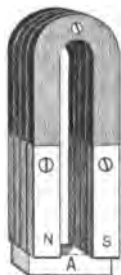

FIG. 191
**296. Magnetic Effect.** — This is the most peculiar and perhaps the most important of the electrical effects. In a general way, most of us are familiar with it. We have seen and used little horseshoe magnets (Fig. 191), and we know their peculiar power to pick up and hold needles, tacks, etc., by some force which we do not understand. This peculiar power is called *magnetic force*.